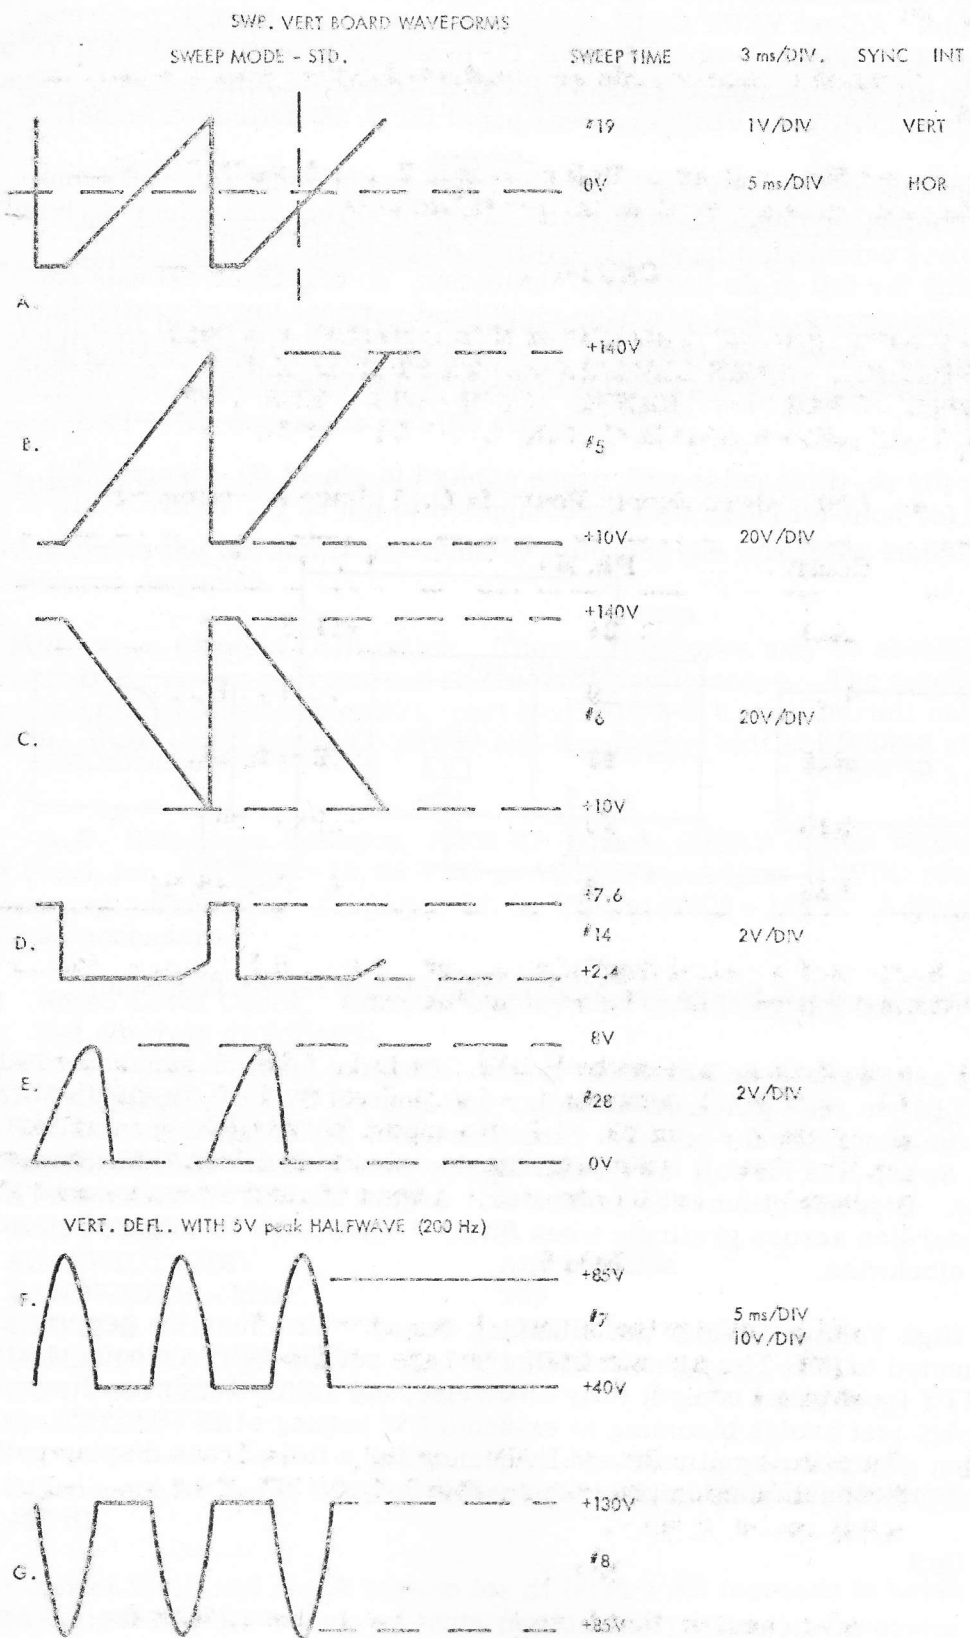

Figure 7-2. A102 Waveforms
7-3.1.2 A102 Sweep and Vertical Amplifier Board. Set oscilloscope as indicated for each test point (figure 7-2). Proceed as follows:
- (1) With display unit controls SYNC at INT, STD SWEEP at 3 msec/DIV, and oscilloscope set to 1V/DIV vertical, 5 ms/DIV horizontal, apply probe to pin 19. Adjust Dispersion Zero Balance R1 to position base of ramp (A, figure 7-2) at  $-2.6V \pm 0.05V$ . Adjust Dispersion Width R70 to position peak of ramp at  $+2.6V \pm 0.05V$ .
Unless otherwise specified, waveforms of figure 7-2 are nominal. Voltages can be within  $\pm 10\%$ .
- (3) Adjust V front panel control to position baseline of wave on bottom line of graticule. Adjust VERT GAIN rear panel control to obtain 1/2-screen display (4 divisions). Now adjust D. C. level R59 to obtain 85V peak (F and G, figure 7-2). Readjust V and VERT GAIN controls if necessary. Check at J101 (OUTPUTS - VERT) on rear panel for 0.5V deflection signal.
- (4) Set oscilloscope for 20V/DIV. Apply probe to pin 5 and adjust H front panel control to obtain start of trace at left of screen one minor division (0.2 Div.) outside left hand vertical line of graticule. Adjust Horiz. Gain R55 for full scale horizontal deflection, so that trace extends one minor division (0.2 Div.) outside right hand vertical line of graticule. Adjust D. C. Level R63 to center the wave on the oscilloscope (B, figure 7-2). Check at J10 (OUTPUTS - HORIZ) on rear panel for 1.0V deflection signal.
- (5) Check for re-trace pulse with probe applied to pin 14 (D, figure 7-2); check for hold-off pulse with probe applied to pin 28 (E, figure 7-2).